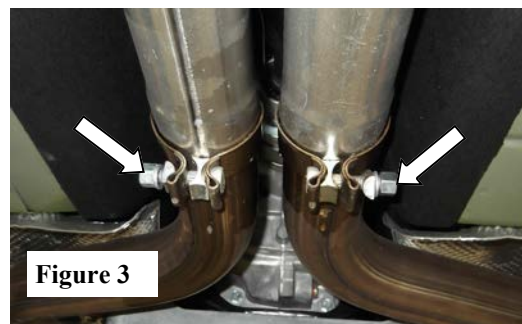

Figure 3
4. Loosen the clamps located in front of the x-pipe assembly. (See Fig. 3)